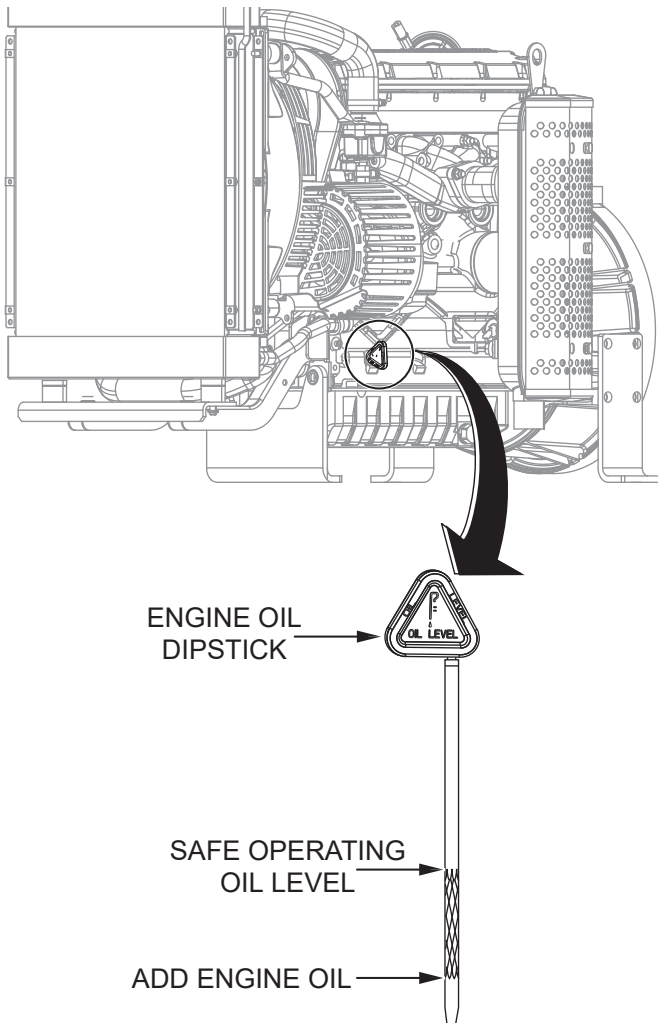

Figure 7. Engine Oil Inspection
2. Remove the engine oil dipstick (Figure 7) from the engine oil filler hole and wipe it clean.
4. Check the oil level on the dipstick (Figure 7). If the oil level is low, fill to the edge of the oil filler hole with the recommended oil type (Table 4). Maximum oil capacity is 3.2 quarts (3.0 liters). **DO NOT** overfill.